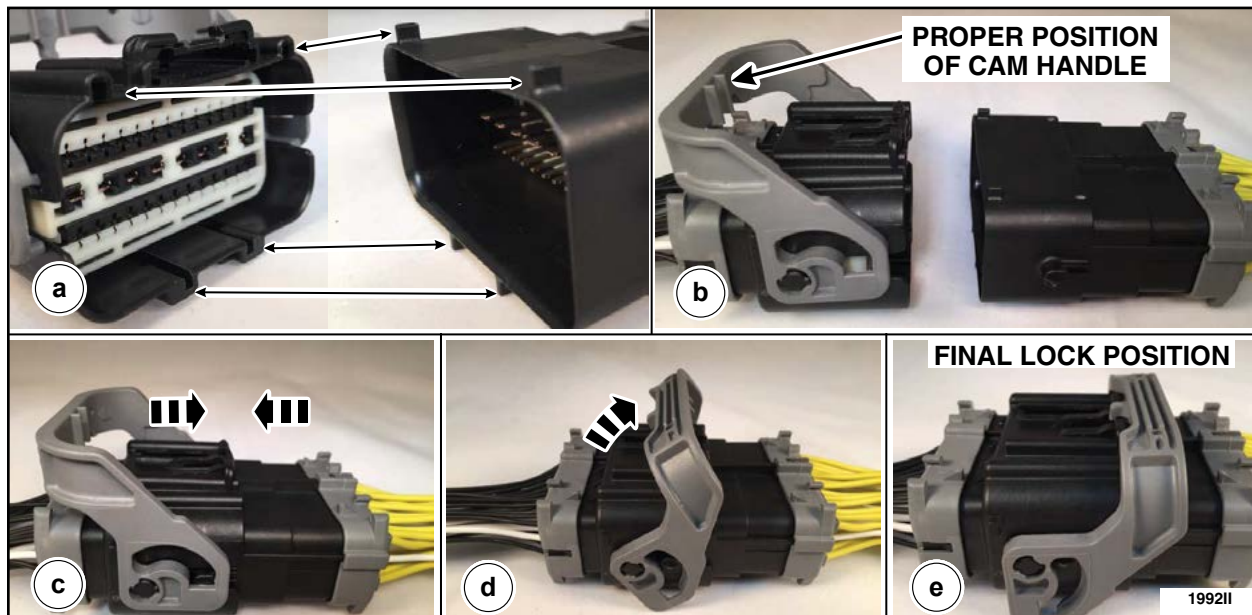

FIGURE 30
5. If disconnected, connect the connector C422 halves together and lock the connector. See Figure 30.